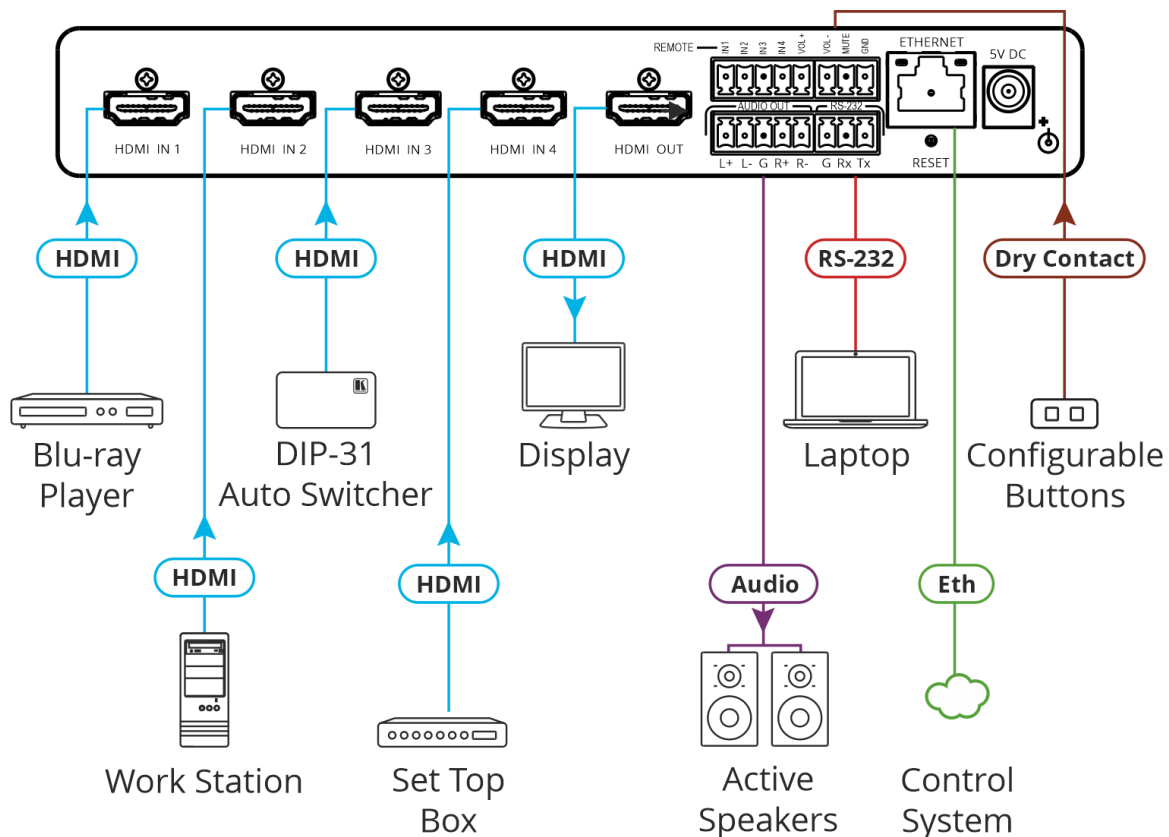

Figure 5: Connecting to the VS-411XS Rear Panel
To connect **VS-411XS** as illustrated in the example in Figure 5:
1. Connect an HDMI source to the HDMI IN connectors (7), for example, Connect:
2. Connect HDMI OUT (8) to an HDMI acceptor (for example, a display).
4. Connect REMOTE dry-contact terminal block connectors (10) to configurable buttons to select an input (see Using Contact Closure Remote Control Pins on page 16) or activate a custom Maestro trigger (see Configuring Device Control and Automation on page 41).
5. Connect the RS-232 3-pin terminal block connector (14) to the RS-232 port on a controller (for example, a laptop) to control the **VS-411XS**.
6. Connect the ETHERNET RJ-45 port (11) to the LAN.
7. Connect the 5V power adapter to **VS-411XS** and to the mains electricity (not shown in Figure 5).